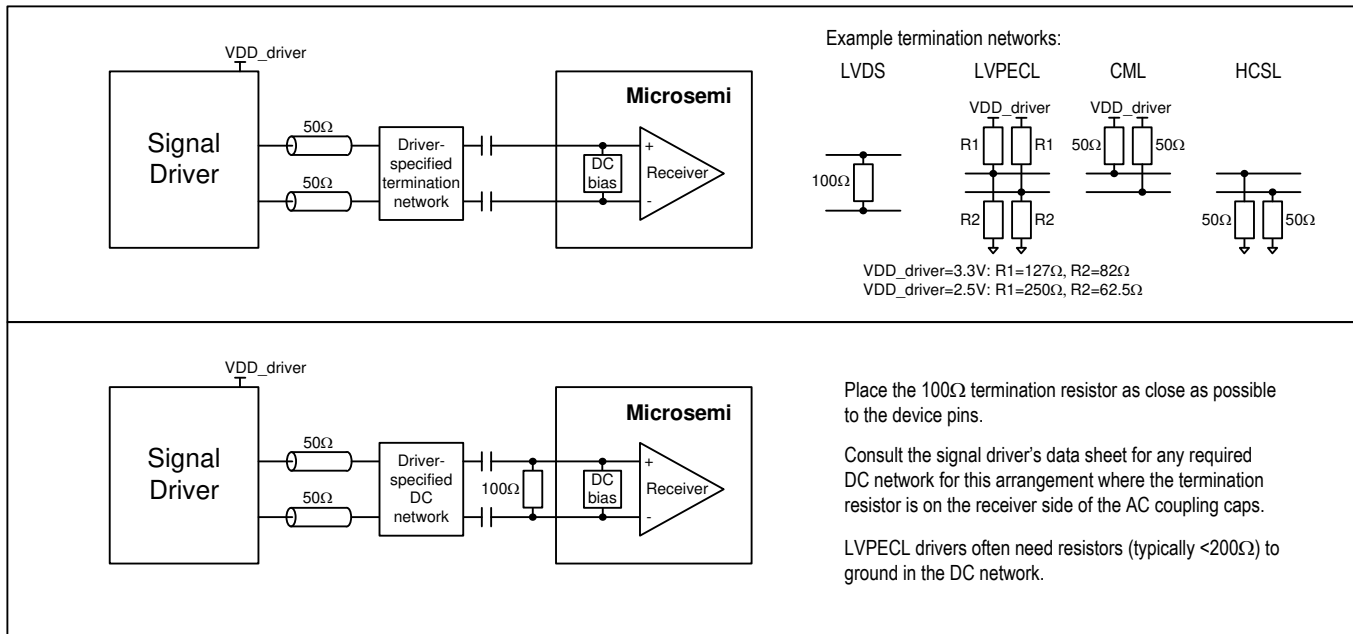

Figure 16 - Example External Components for Differential Input Signals
- Note 3: Differential signals.** The differential inputs can easily be interfaced to neighboring ICs driving LVDS, LVPECL, CML, HCSL, HSTL or other differential signal formats using a few external passive components. In general, Microsemi recommends terminating the signal with the termination/load recommended in the neighboring component's data sheet and then AC-coupling the signal into the ICxP/ICxN pins. See Figure 16 for details. To connect a differential signal to IC3, AC-couple one side of the signal to IC3P and AC-couple the other side to VSS. For DC-coupling, treat the input as 1.8V CML.